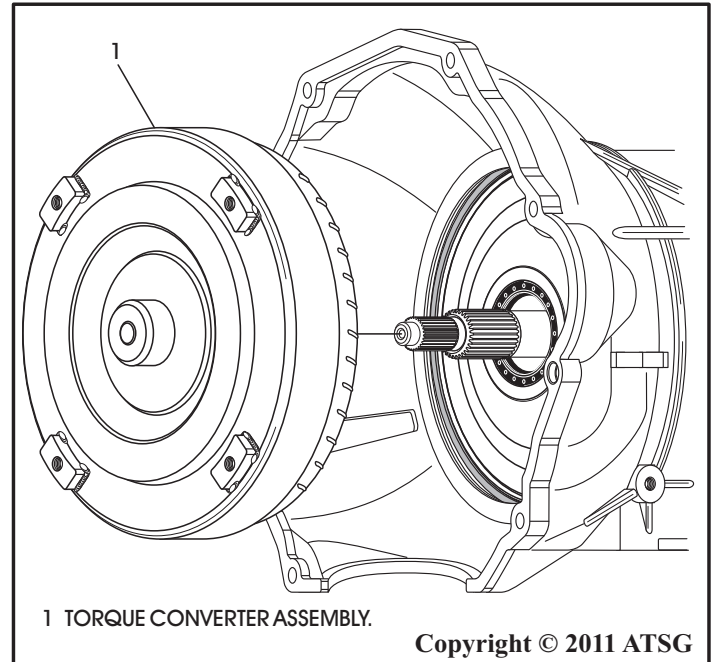

Figure 170
60. Install torque converter, as shown in Figure 170, and while pushing in rotate converter until fully seated in pump gears.